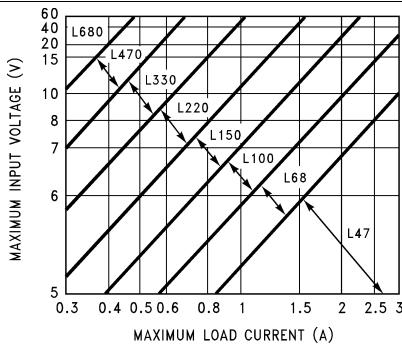
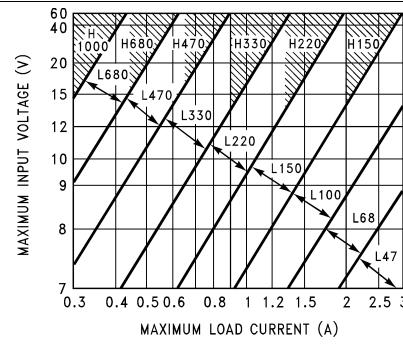
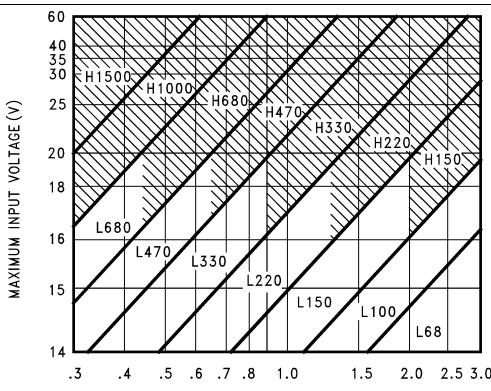
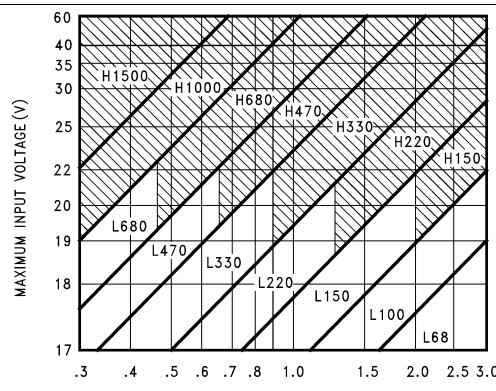

Figure 27. LM2576(HV)-3.3
Figure 28. LM2576(HV)-5.0
Figure 29. LM2576(HV)-12
Figure 30. LM2576(HV)-15
The inductor value selection guides in Figure 27 through Figure 31 are designed for buck regulator designs of the continuous inductor current type. When using inductor values shown in the inductor selection guide, the peak-to-peak inductor ripple current is approximately 20% to 30% of the maximum DC current. With relatively heavy load currents, the circuit operates in the continuous mode (inductor current always flowing), but under light load conditions, the circuit is forced to the discontinuous mode (inductor current falls to zero for a period of time). This discontinuous mode of operation is perfectly acceptable. For light loads (less than approximately 300 mA), it can be desirable to operate the regulator in the discontinuous mode, primarily because of the lower inductor values required for the discontinuous mode.
1. Select the correct Inductor value selection guide from Figure 27, Figure 28, Figure 29, or Figure 30. (Output
voltages of 3.3 V, 5 V, 12 V, or 15 V, respectively). For other output voltages, see the design procedure for the adjustable version. Use the selection guide shown in Figure 28.
3. Identify the inductor value from the inductor code, and select an appropriate inductor from the table shown in Figure 27. Part numbers are listed for three inductor manufacturers. The inductor chosen must be rated for operation at the LM2576 switching frequency (52 kHz) and for a current rating of $1.15 \times I_{LOAD}$. For additional inductor information, see the Inductor Selection section. Inductor value required is 100 μH from the table in Figure 27. Choose AIE 415-0930, Pulse Engineering PE92108, or Renco RL2444.